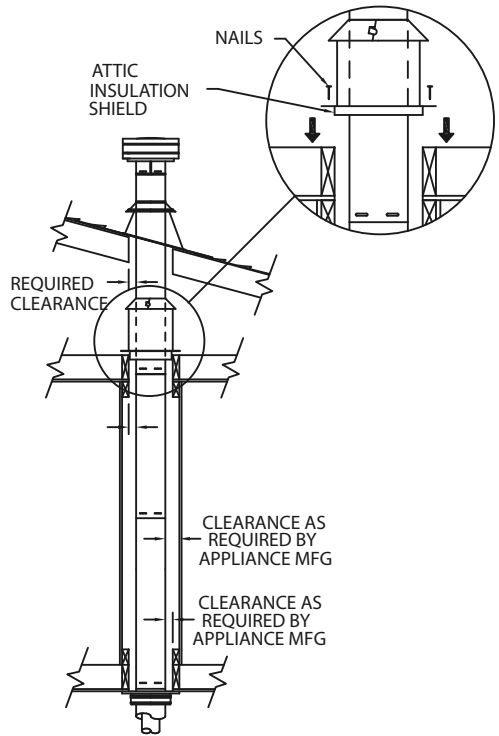

Figure 19
(1) For multi-story vertical installations, a Ceiling Firestop is required at the second floor, and any subsequent floors (**Fig. 19**). Refer to **Table 1, page 8**. Cut and frame a square opening for installation of the Ceiling Firestop.
(2) If Vent passes through any occupied areas above the first floor, including closets and storage spaces, it must be enclosed. The enclosure may be framed and sheetrocked with standard construction materials, but required clearances to combustibles must be maintained. Consult the appliance manufacturer's installation instructions for the minimum allowable clearance between the outside of
the vent pipe, and the combustible surfaces of the enclosure. Do not fill required air spaces with insulation. **(3)** If venting system passes through an attic space the Attic Insulation Shield must be installed to prevent contact between Pipe Sections and the insulation or other debris. Nail the base to floor of attic and adjust shield for appropriate insulation level, then attach the collar at the top of assembly **(Fig. 19)**. For vaulted ceilings, the Attic Insulation Shield cannot be installed. To prevent building insulation and other debris from entering the support box or contacting the pipe, a chase enclosure can be constructed around the support box. Ensure proper clearance to combustibles is maintained as prescribed by the appliance manufacturer.